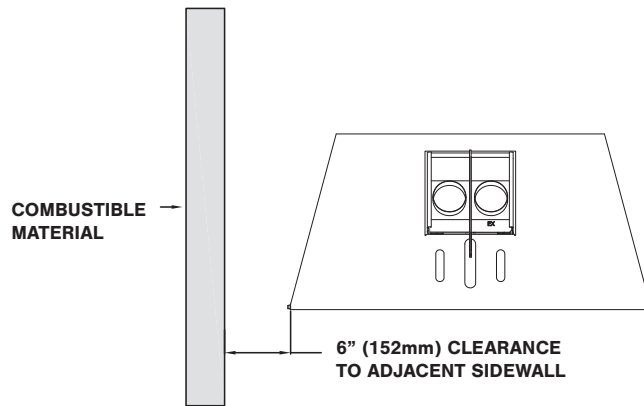

Figure 8.1, Clearance to Adjacent Sidewall
- The adjacent sidewall minimum clearance is 6" (152mm) from the appliance sides (Fig 8.1).
- As shown in Figures 8.1 and 8.4, the minimum clearance from the fireplace enclosure floor to the ceiling is 55" (1.04m).